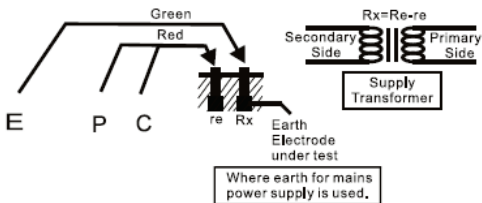

Fig.2
1. This method is recommended where an earth resistance higher than 10Ω is measured or where it is not possible to drive auxiliary earth spikes. An approximate value of earth resistance can be obtained by the two wire system where is shown in Fig. 2.